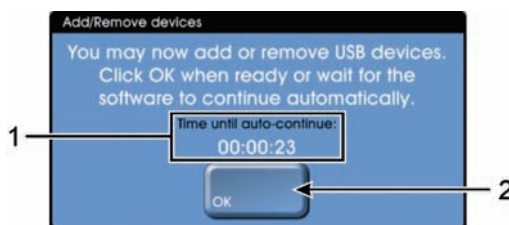

Figure 146: "Add/Remove devices" dialog box — instrument ready for changes
4. When the instrument is ready to accept the USB device the "Add/Remove devices" dialog box will change to indicate that you can now insert the new device (see Figure 146).
5. You have 30 seconds to add the new device before the function automatically times out (see item 1 in Figure 146).
Select the **OK** button from the "Add/Remove devices" dialog box (see item 2 in Figure 146)
Wait for the auto-continue function to activate after 30 seconds (see item 1 in Figure 146).